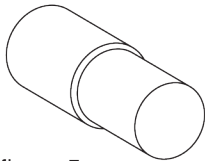

figure 5
**Method 2** Remove original dowels from motor and reinstall the motor plate (if used) and the flywheel housing. Lightly torque the bolts and re-indicate. Bump the housing into perfect alignment and finish torquing the retaining bolts. With an oversized reamer, ream and oversize the dowel pin holes. Make new over sized, stepped pins (see figure 5) and install.